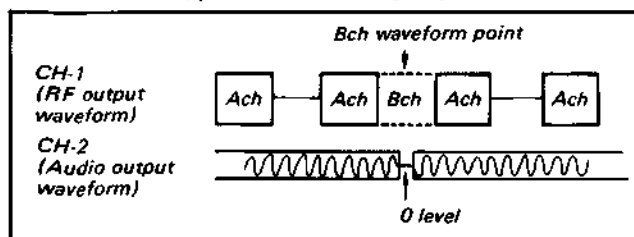

Fig. 3-51. Position adjustment of ACE assembly (1)
2. Play back the 1 MHz segment of alignment tape KR5-1H. (See Fig. 3-51).
3. Set the tracking control to the center, detent, position and confirm that the output waveform level is maximum and the 0 level point of the audio signal appears at the Bch waveform point as shown in Fig. 3-51. If the specification is not satisfied, perform the following Step 4.
6. Loosen the two position adjusting screws of the ACE head and adjust the cut-out section of section A for maximum RF output waveform and a 0 level of audio signal at the Bch waveform point. (See Fig. 3-51).